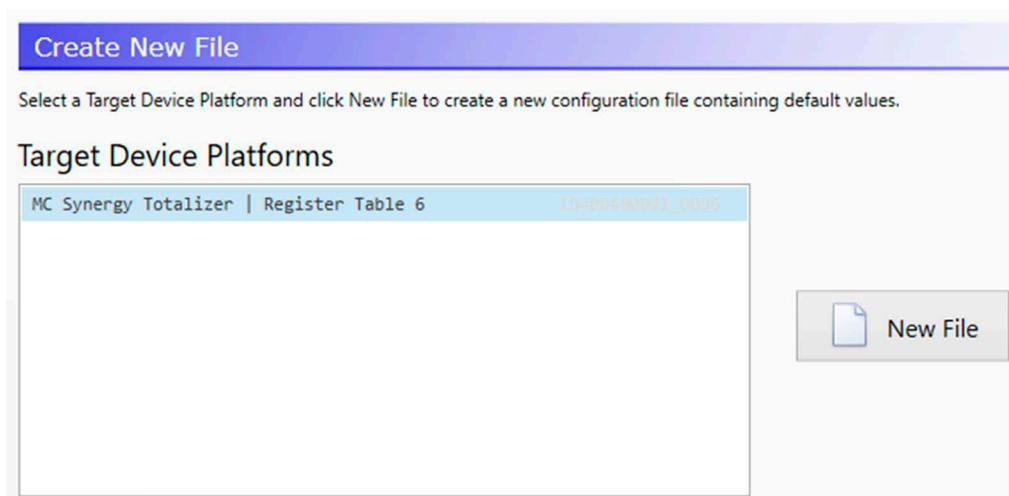

Figure 5.6—Target Device Platform selection for new configuration files
3. To create a new configuration file, choose a target device platform from the Edit a Configuration File screen (Figure 5.6) that corresponds with the firmware loaded onto the device that is being configured. At the time of product release, the MC Synergy Totalizer | Register Table 6 was the only target device platform available. If you are presented with other register table versions, contact the factory to confirm compatible firmware versions.